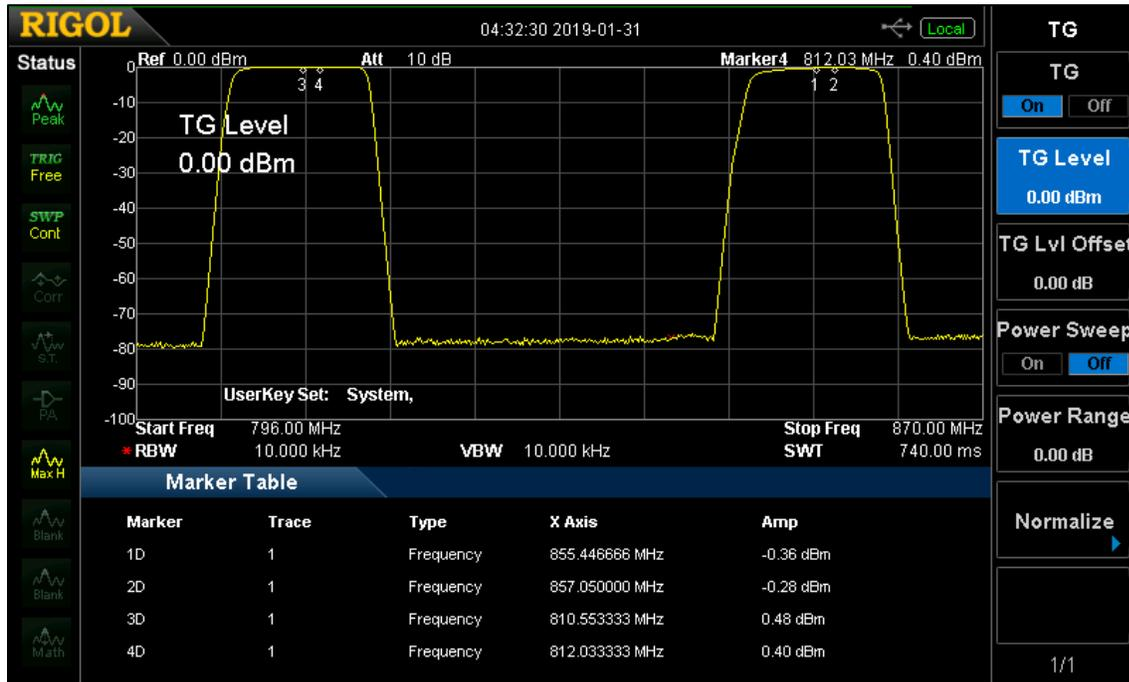

Figure 1.12
- (-0.36dBm)	The amp value or signal level of Marker 1D (Figure 1.12)
10. Send a screen shot of the two tests' display (see Figure 1.12) to the Project Manager.